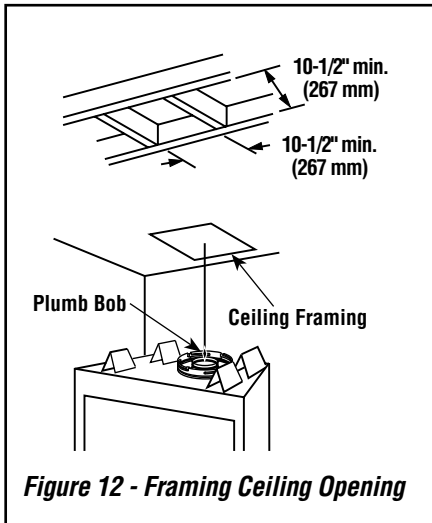

Figure 12 - Framing Ceiling Opening
A. Frame ceiling opening - Use a plumb line from the ceiling above the appliance to locate center of the vertical run. Cut and/or frame an opening, 10-1/2" x 10-1/2" (267 mm x 267 mm) inside dimensions, about this center mark (*Figure 12*).
C. Frame ceiling opening - If the vertical route is to penetrate a ceiling, use a plumb line to locate the center above the appliance. Cut and/or frame an opening, 10-1/2" x 10-1/2" (267 mm x 267 mm) inside dimensions, about this center (see **Figure 12 on Page 16**).